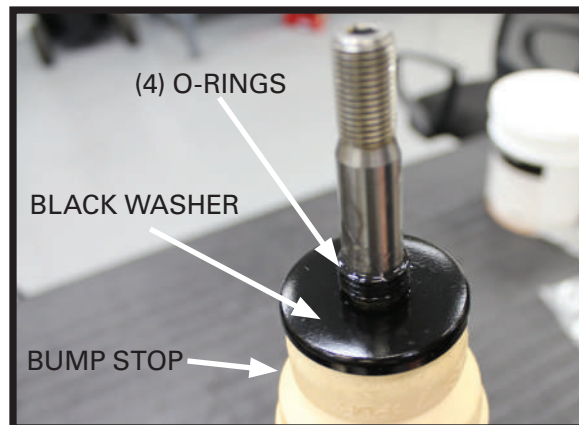
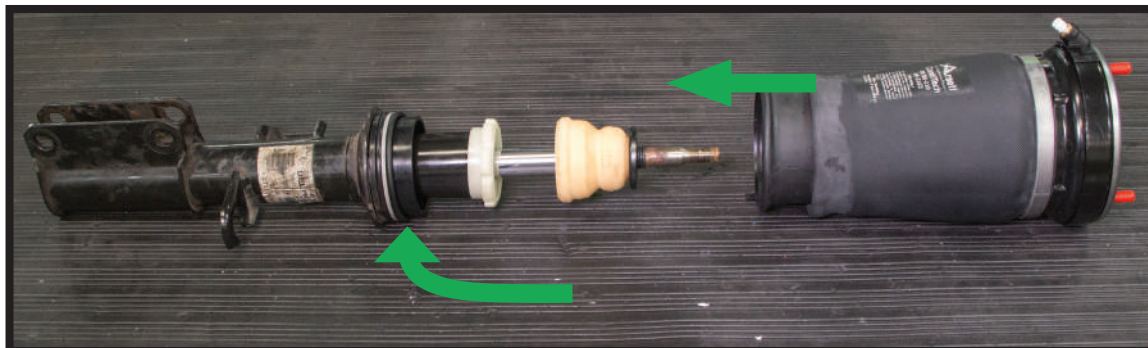

FIGURE 11
FIGURE 12
5. INSTALL THE NEWLY SUPPLIED BUMP STOP, BLACK WASHER AND FOUR (4) O-RINGS. (FIGURE 11) APPLY A SILICONE BASED LUBRICANT ON THE O-RINGS PRIOR TO INSTALLING AIR SLEEVE ASSEMBLY. INSTALL THE NEW ARNOTT® AIR SLEEVE ASSEMBLY ONTO SHOCK WITH THE ALIGNMENT PIN IN THE SAME ORIENTATION AS THE OLD AIR SPRING. (FIGURE 12)